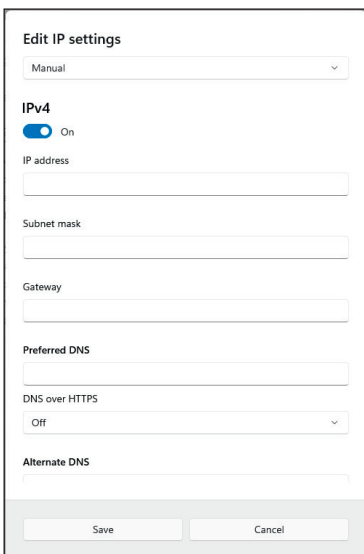

Fig. 6-10: Windows 11, **Edit IP Settings** dialog, full setting options
- ☞ Make the required settings (**IP address**, etc.) and then click **Save** (Fig. 6-10).